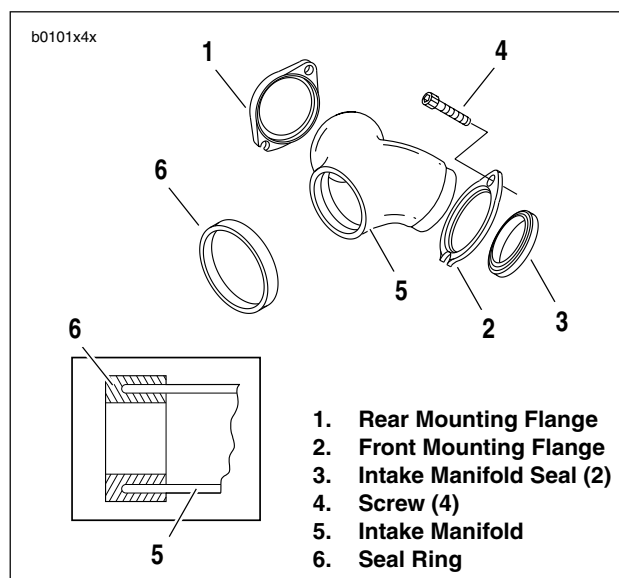

Figure 4-13. Intake Manifold
4. See Figure 4-13. Loosen two screws (4) holding intake manifold on primary side of engine. Do not remove.
5. Remove two screws (4) holding intake manifold on gear-case cover side of engine.
6. Remove intake manifold (5) and seal ring (6). Slide both mounting flanges (1, 2) over primary side screws (4). Remove both intake manifold seals (3).